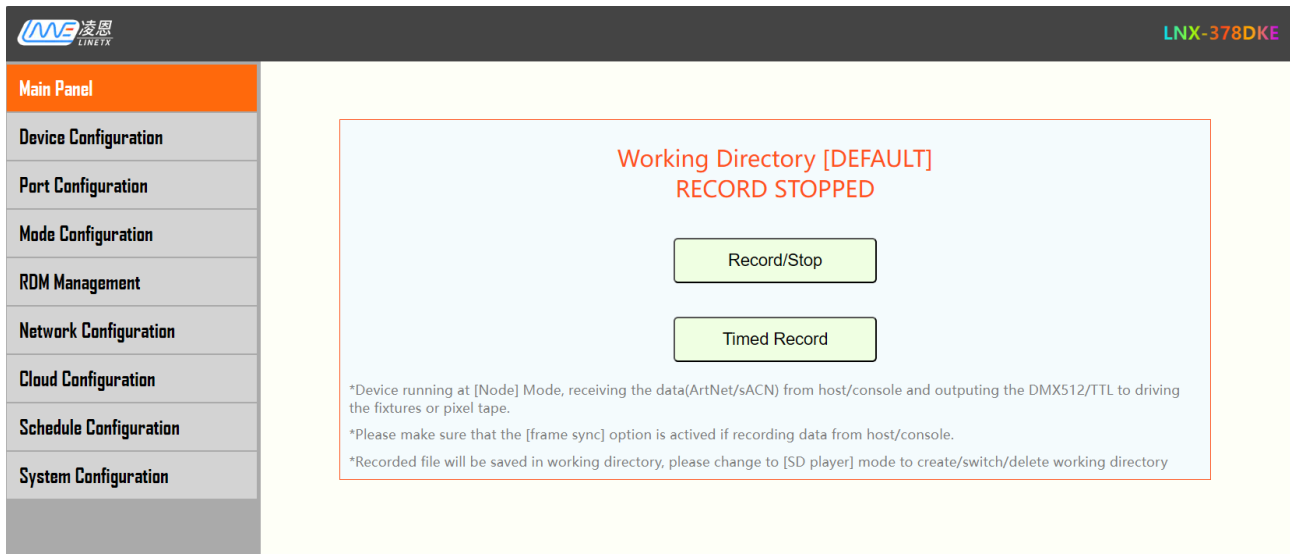

Figure 3-3 Main Panel of ArtNet Node
b. The main panel of WEB is shown in Figure 3-3: